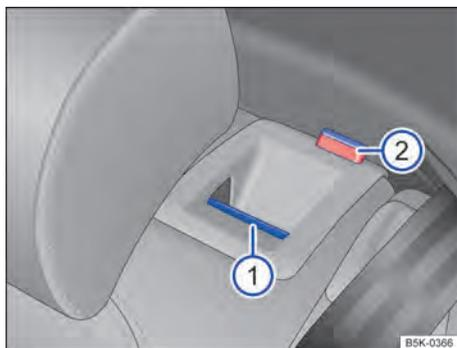

Fig. 62 On the rear seat backrest: unlocking button.
- Pull the release button → Fig. 62 ① forward and simultaneously fold the rear seat backrest forward.
- The respective section of the rear seat backrest will be released when the red marker → Fig. 62 ② pops up.
- The red marker → Fig. 62  must no longer be visible.